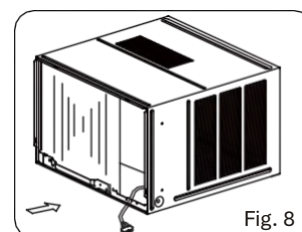

Fig. 8
1. Slide the unit into the cabinet until it is firmly against the back. Precautions are necessary to ensure that the foam sealing strips of the cabinet remain in place (see Fig. 8).